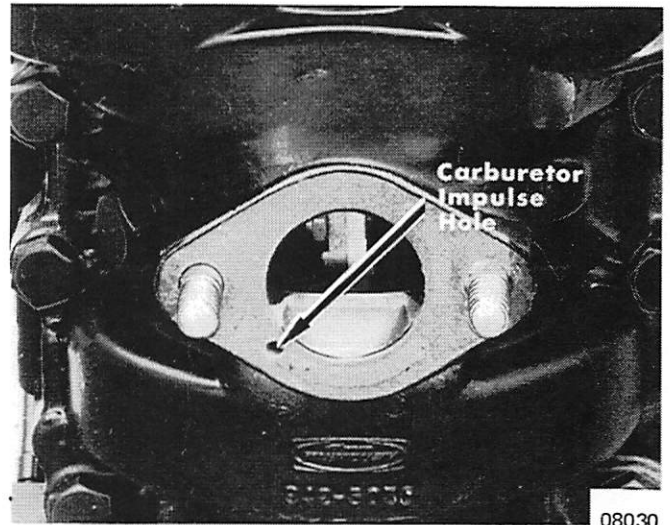

Figure 1. Carburetor Impulse Hole
2. Install carburetor gasket and carburetor assembly to powerhead. Make sure that carburetor impulse hole lines up with hole in gasket. (Figure 1) Torque nuts to specification.